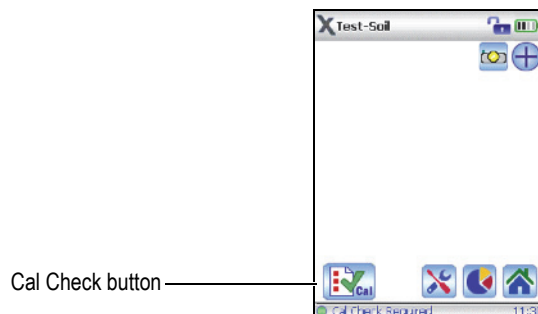

Figure 6-2 Cal Check Required message
6. Navigate to the **Test Setup** screen, and then tap the Cal Check button (see Figure 6-2 on page 16).